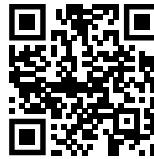

Fig. 139
- ▶ Отворете [Liebherr SmartMonitoring Dashboard](https://smartmonitoring.liebherr.com). (виж Fig. 139)